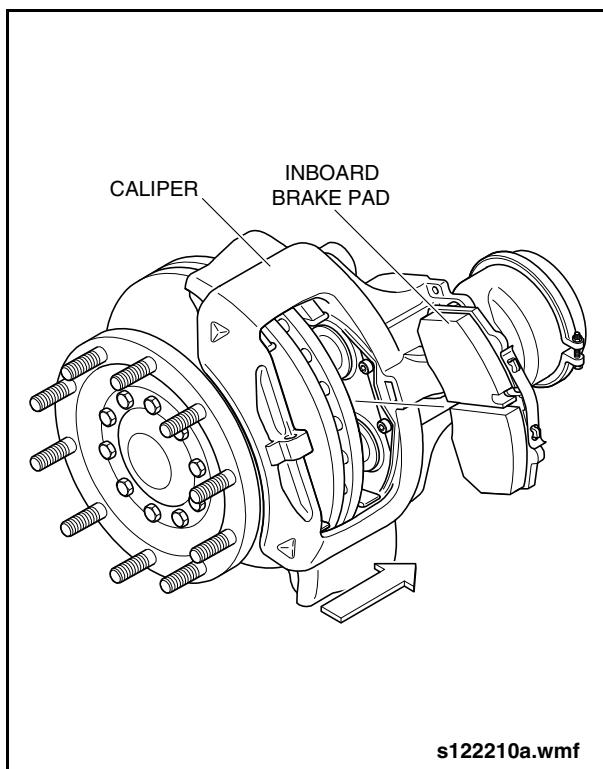

Fig. 1-56: Brake Pad Installation
1. Push the brake caliper inward against the stop and insert the inboard brake pad. See "Fig. 1-56: Brake Pad Installation" on page 60.